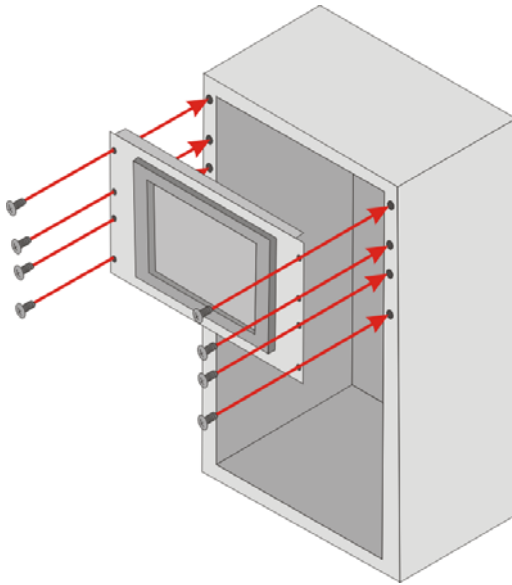

Figure 4-24: Install into a Rack/Cabinet
Step 4: Slide the flat panel PC with the attached rack/cabinet bracket into a rack or cabinet (**Figure 4-24**).
Step 5: Once the flat panel PC with the attached rack/cabinet bracket has been properly inserted into the rack or cabinet, secure the front of the rack/cabinet bracket to the front of the rack or cabinet (**Figure 4-24**).